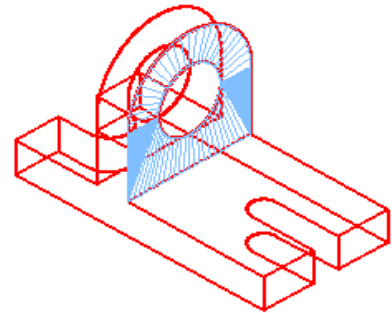

Figure Step 21
Step 21 Change the layer of the existing surfaces to layer Surface until your model matches Figure Step 21.